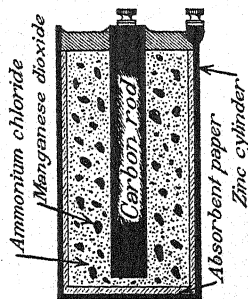

FIG. 149. — Gas carbon rods are used for making dry cells.
**230. Gas Carbon.** In the manufacture of coal gas, finely divided carbon collects on the walls of the retorts. When it is collected and pressed into sticks, it becomes quite a good conductor of electricity. Gas carbon is used to make the positive plate of dry cells, and for making the rods for use in the electric arc. (See Fig. 149.)